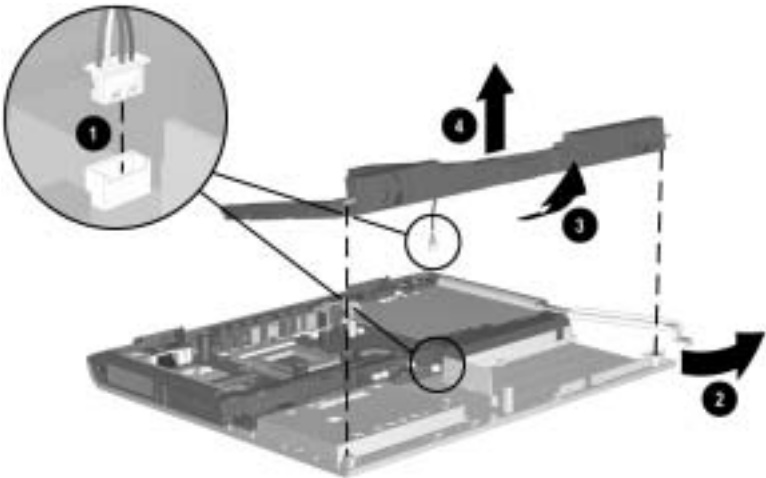

Figure 5-37. Removing the Speaker Assembly
4. Disconnect the speaker cable ❶ from the system board (Figure 5-37).
5. Swing the battery bay support bracket ❷ to the right until it clears the right edge of the speaker assembly.
6. Lift the front edge of the speaker assembly until it rests at an angle ❸.
7. Slide the speaker assembly forward and remove it ❹ from the base enclosure.